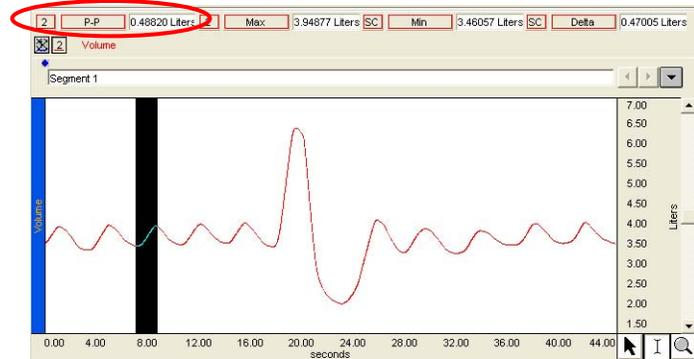

Fig. 12.16 Inhalation of third breath cycle selected to measure P-P
- a) Use the **I-beam** cursor to select the **inhalation** of cycle 3 and note the P-P result (Fig. 12.16). The selected area should be from the valley to the peak of the third cycle.
The **P-P** measurement in Fig. 12.16 represents the first value required for the averaged TV calculation.